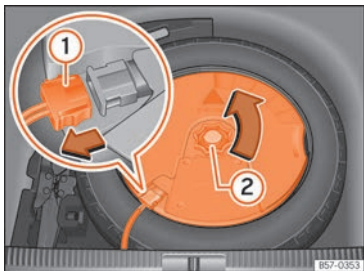

Fig. 322 In the luggage compartment: remove the subwoofer.
- Disconnect the *subwoofer* »» Fig. 322 ① speaker cable.
- Turn the securing wheel in an anti-clockwise direction »» Fig. 322 ②.